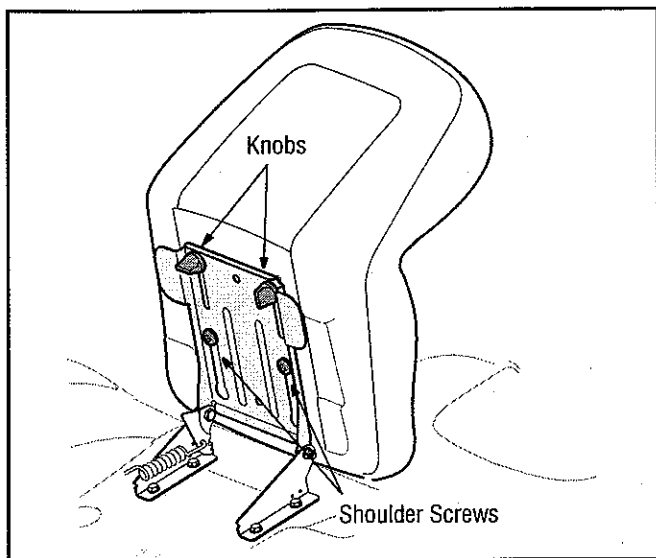

Figure 3
4. Select desired position for the seat, and secure with the two knobs removed earlier. See Figure 3.